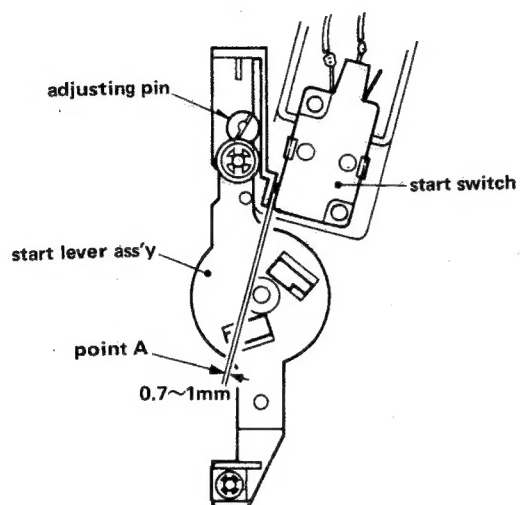

Fig. 4-12
2. Referring to Fig. 4-12, check that there is a clearance of 0.7 to 1 mm at point A.